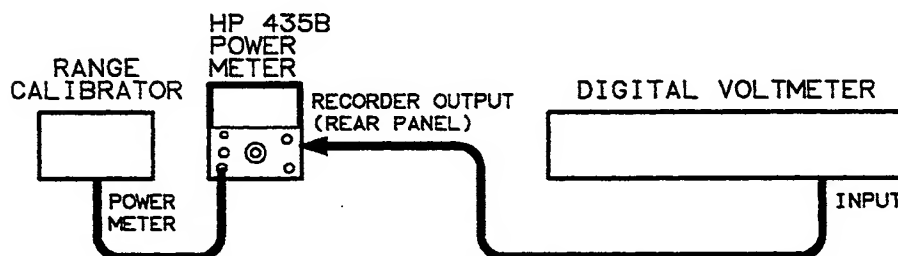

Figure 5-5. Power Meter Adjustment Setup with Calibrator
5. Remove the right side cover of the power meter, connect the equipment as shown in Figure 5-5 and set the LINE switch to ON.